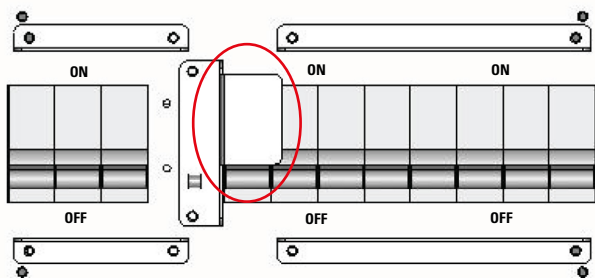

Fig. 57. Mechanical lock of the UPS maintenance bypass switch.
3. Remove the mechanical lock of the UPS manual bypass switch (Q5) (only for tower format devices): unscrew the screws provided and remove the metal cover (see Fig. 57).
10. Replace the mechanical lock of the UPS manual bypass switch (only for tower format devices): screw the metal cover in using the screws provided (see Fig. 57).